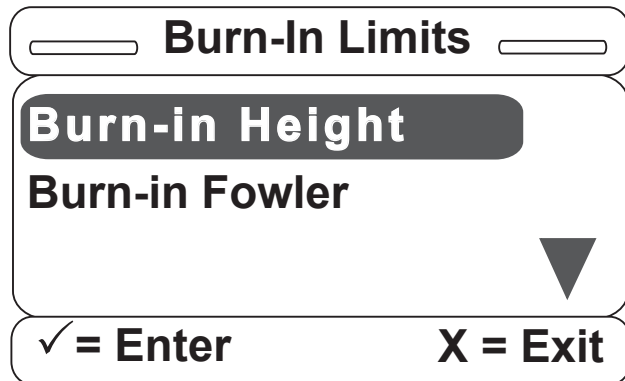

Figure S-28
26. Once the Burn-in item is selected, the screen in Figure S-28 will be displayed. The Burn-in Height item will walk the user through the burn-in height routine; and, similarly, the Burn-In Fowler item will walk the user through the burn-in fowler routine.